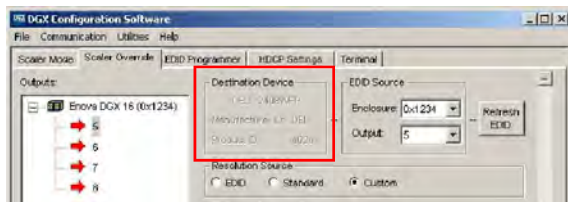

FIG. 178 Destination device description, Manufacturer ID, and Product ID
3. Under **EDID Source**, select the Enclosure and select the **Output** number connected to the desired destination from the drop-down lists. The system is queried for all compatible devices found with the default (or last saved) communication link setting (FIG. 178):